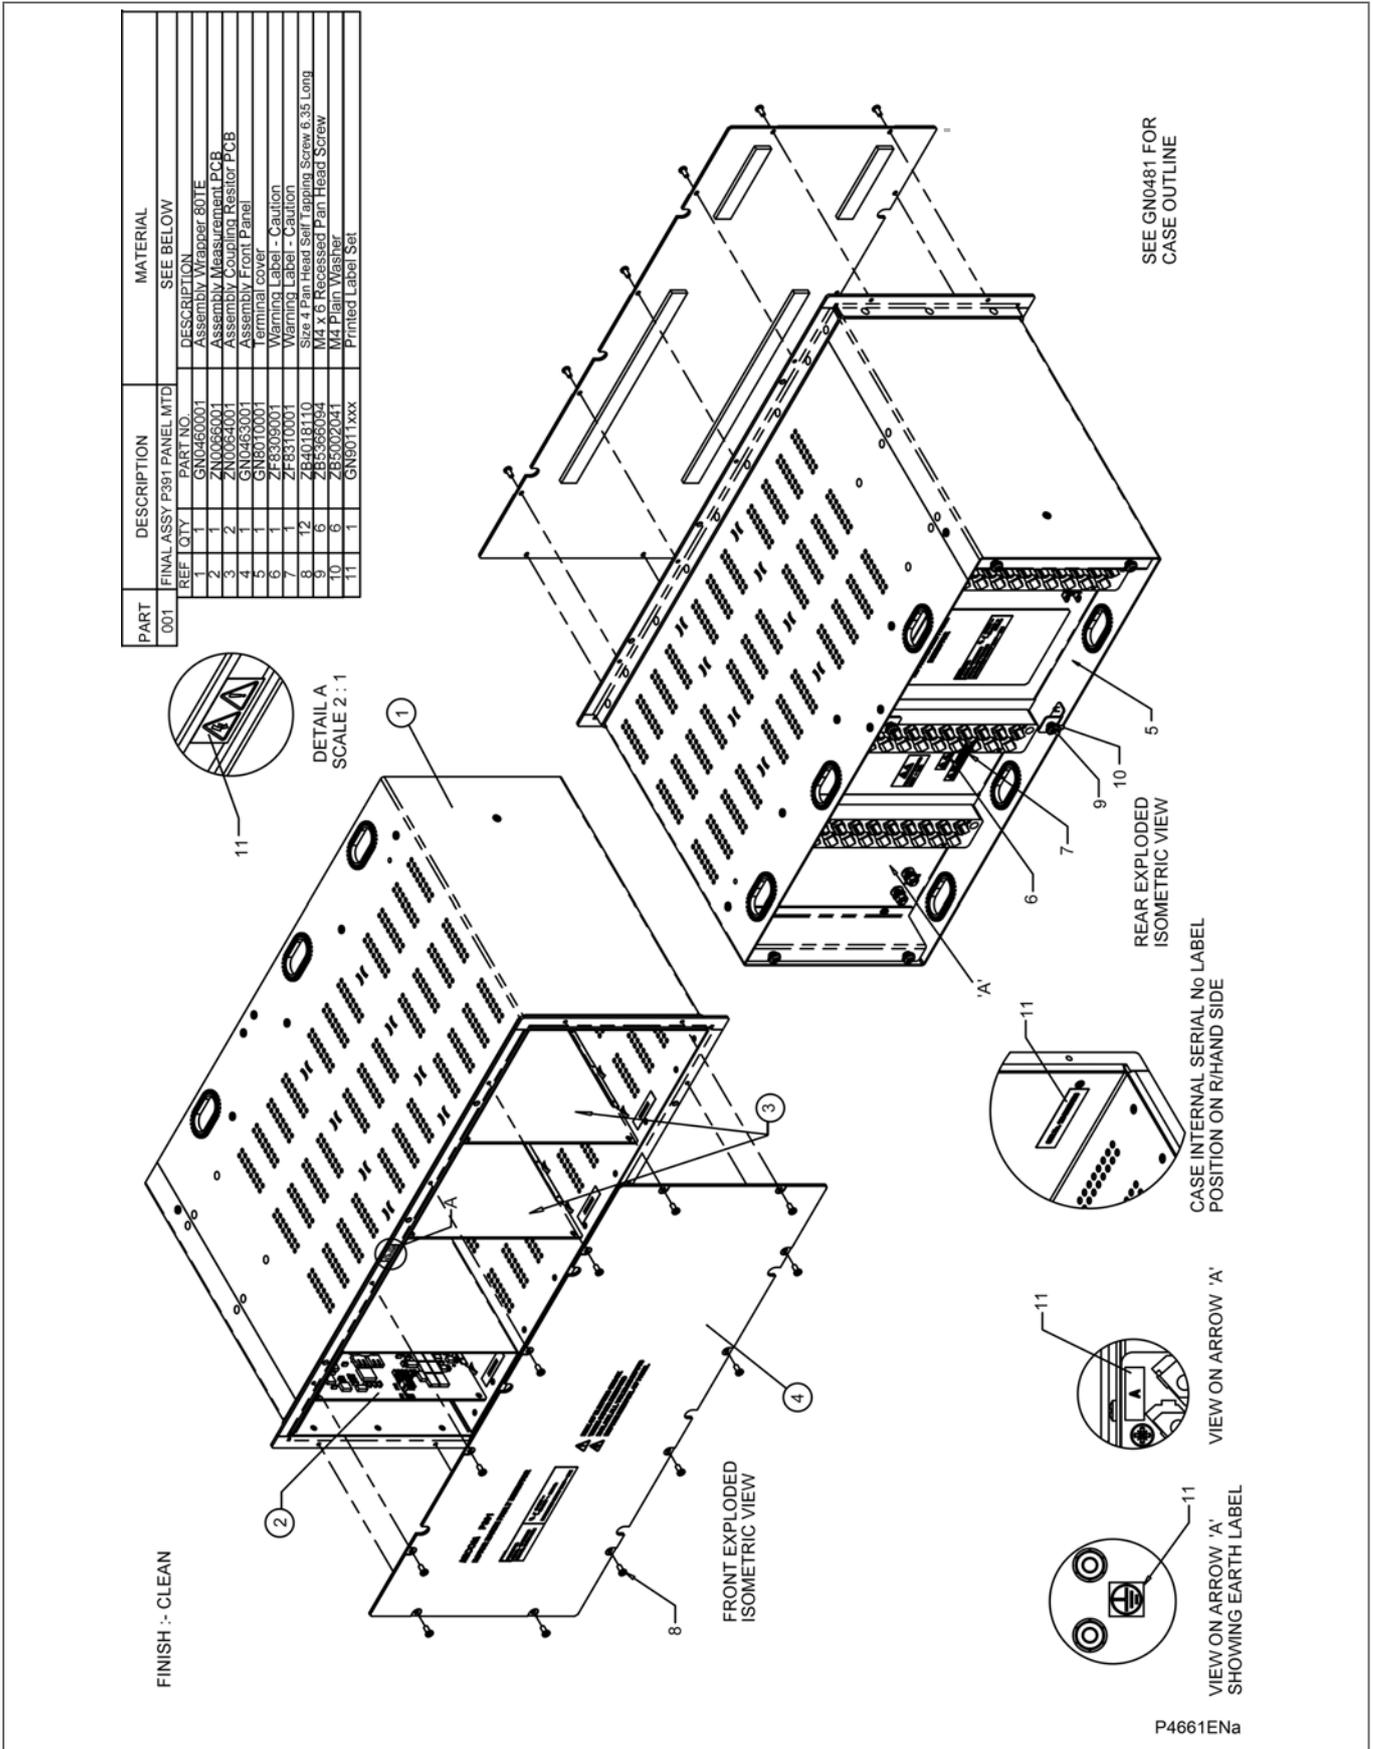

Figure 92 - P391 panel mounted - Final assembly drawing
- Figure 92 - P391 panel mounted - Final assembly drawing